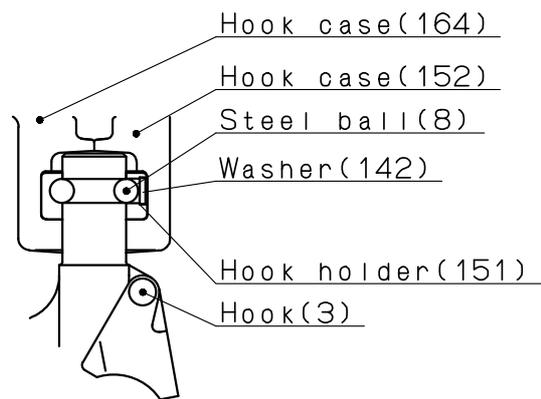

Fig.23
- ①Install Hook(3) in Hook holder(141), and insert eight Steel balls(8).
- ②Install Washer(142) and Sleeve(143).
- ③Insert the end link of Link chain(135) into Hook holder(141), and fix with Pin(144). Attach Ring(145).
- ①Install Hook holder(151) so the thicker wall bears the load. (See Fig. 23)